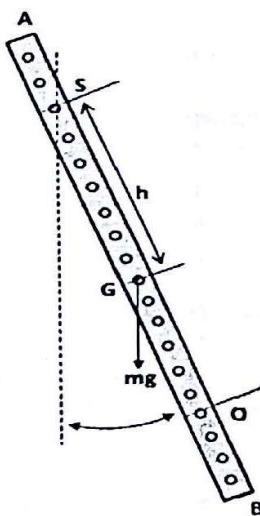

Fig. 5.1: Compound Pendulum
where I is the pendulum's rotational inertia about the pivot, m is the pendulum's mass, and h is the distance between the pivot and the pendulum's centre of gravity as shown in Fig. 5.1.
A compound pendulum that oscillates from a suspension point (S) with period T (as shown in Fig. 5.1) can be compared with a simple pendulum of length L with the same period T . L is called the equivalent length of the compound pendulum. The point along the compound pendulum at a distance L from the suspension point is called the oscillation point (Fig. 5.1). In a compound pendulum these two points are interchangeable.